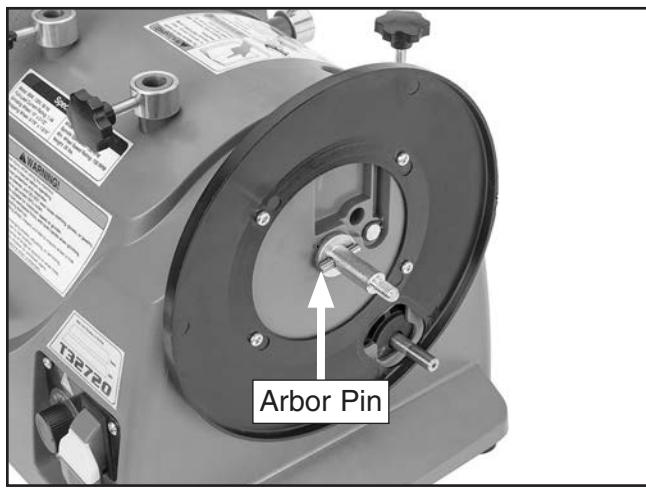

Figure 29. Arbor pin properly seated in spindle.
5. Mount new stropping wheel, taking care to keep arbor pin seated in spindle, as shown in **Figure 29**. Stropping wheel will not fully seat if pin is not in place.